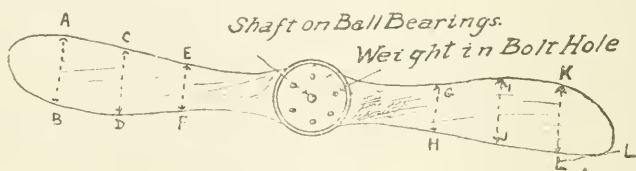

FIG. 27.
*Surface area.*—The surface area of the blades should be equal. Test with callipers. (See fig. 27.)